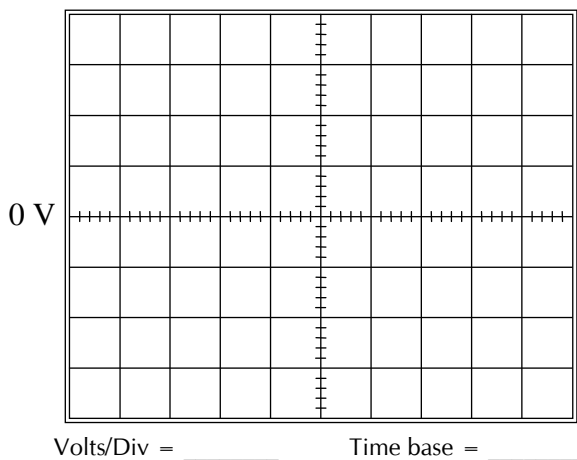

Fig. 3.12 Waveform v_o (measured)
4. Using the oscilloscope with the coupling switch in the DC position obtain the waveform for v_o and record on Fig. 3.12. Again, be sure to preset the $v_o = 0$ V line using the GND position of the coupling switch before viewing the waveform. Using the chosen sensitivities determine the maximum and minimum values and place on the sketch of Fig 3.12.
6. Compare the results of Figs. 3.12 and 3.13. What are the major differences and why? _____